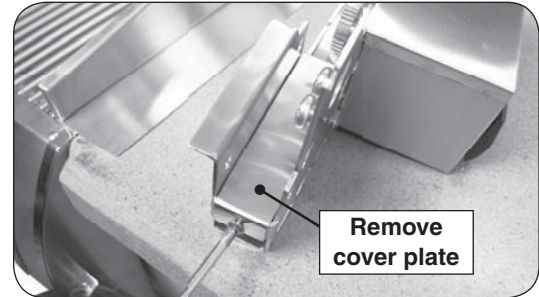

Fig. 4-2 Remove cover plate
1. Remove the cover plate by unscrewing and removing the screw using a Phillips screwdriver (see Fig. 4-2).